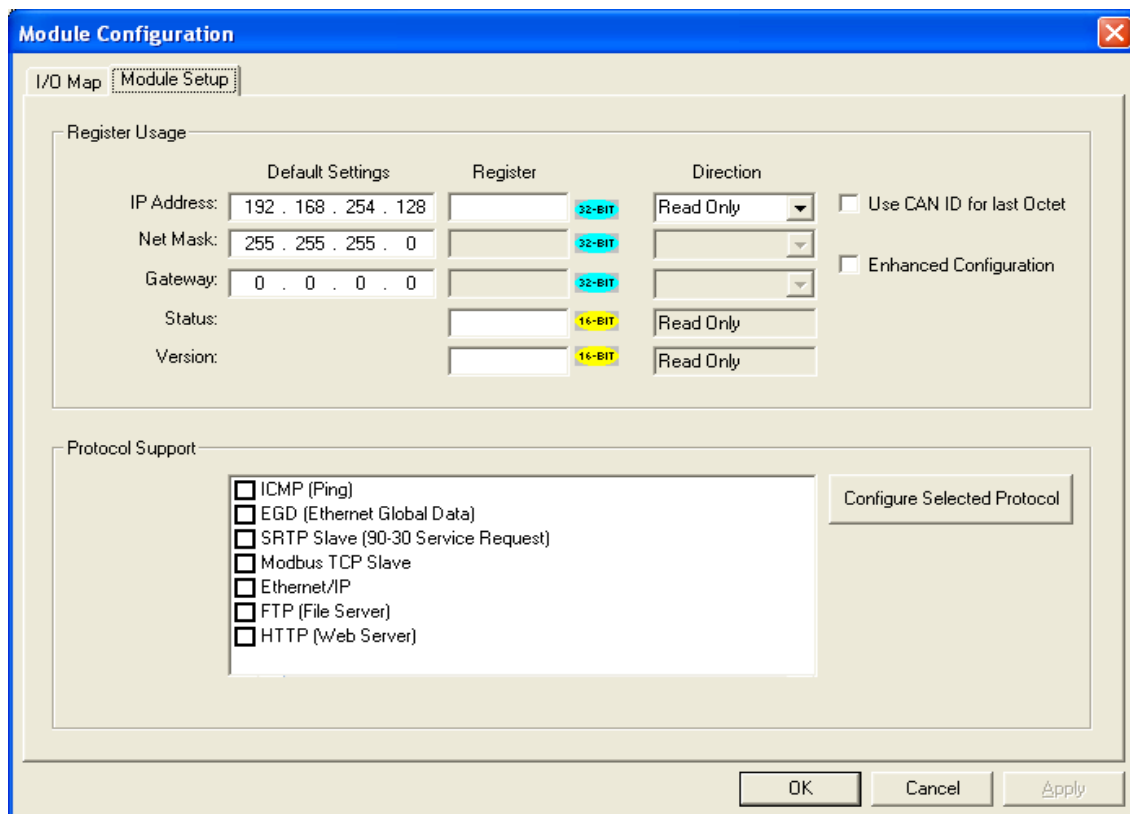

Figure 7.2: Ethernet Module Configuration
3. Click the **Config** button to the right of the Ethernet Module, and then select the Module Setup tab, revealing the Ethernet Module Configuration dialog as shown in figure 7.2